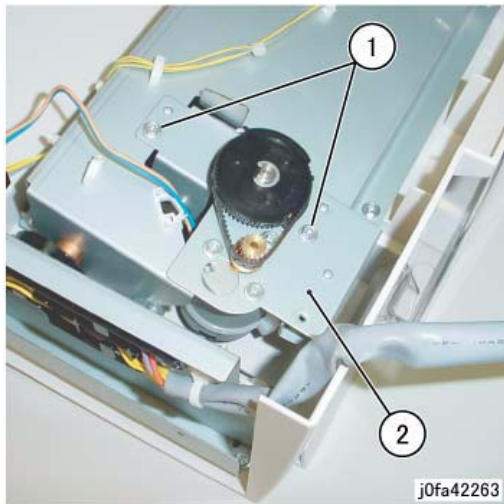

Figure 3 Removing the Stacker Motor Assembly
9. Remove the Stacker Motor Assembly (Figure 3):